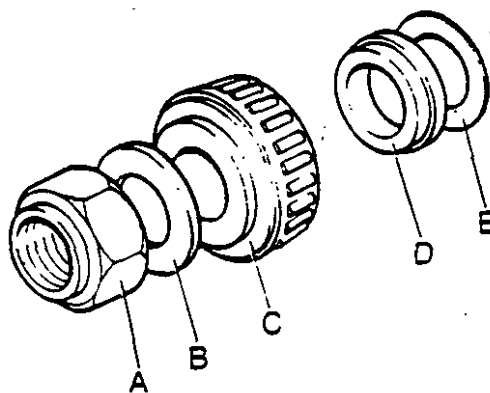

Figure 41
23. Install the bearing, special washer and Nyloc nut on the pinion shaft. See Figure 41.